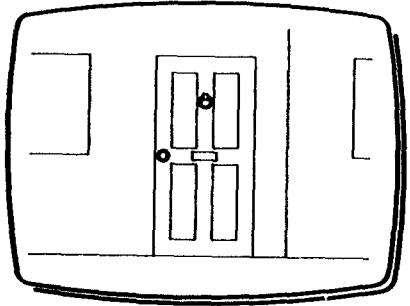

Fig 6
- 4 **Try modifying the retrieved detail (Fig 6). Additions to, or deletions from the 'loaded' zoom view automatically update the Work Page and ZOOM STORE 1, thus there is no need to store again after modification.**